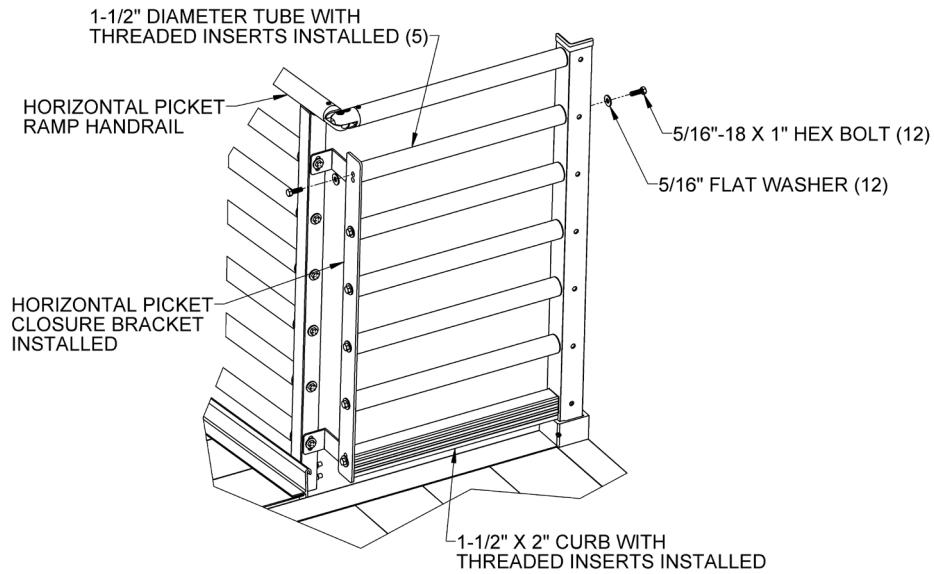

FIG. 5.20
5.7.4. Attach the tube with threaded inserts installed to the platform handrail post and the horizontal picket closure bracket using 5/16"-18 x 1" long hex bolts and 5/16" flat washers, but do not tighten fully (FIG. 5.20).